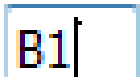

Figure 11.26 "Label of the boring log" edit box
- Double-click on the label of the boring log. The corresponding edit box appears allowing you to modify the label of the boring log, Figure 11.26
- Type B1 in the edit box of Figure 11.26